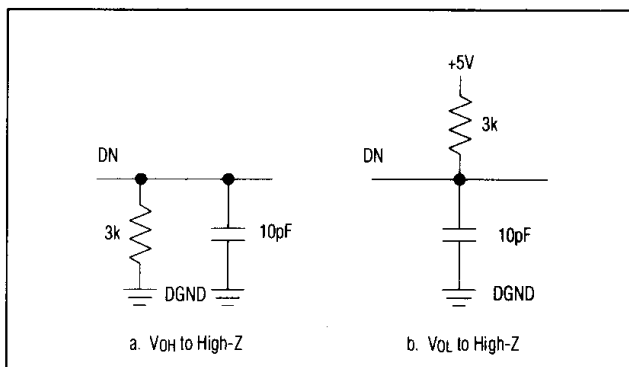

図2. バス解放時間に対する負荷回路
**Note 10:** t17 is defined as the time required for the data lines to change 0.5V when the circuit load is as shown in Figure 2.